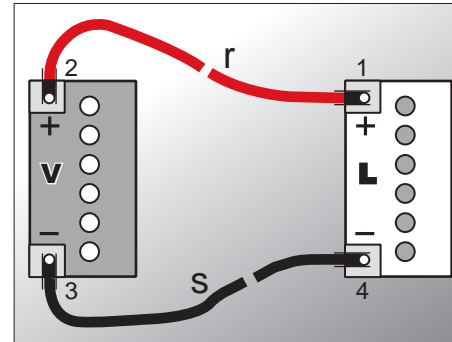

Fig. 104
1. Connect the red jumper cable Item r (Fig. 104) to the positive pole of the dead battery Item L.
2. Connect the red jumper cable to the positive pole of the charged battery Item V (Fig. 104).